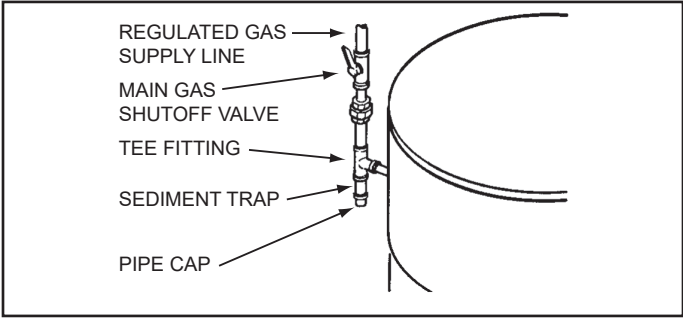

Figure 65. Main Gas Shut-Off Valve, Tee Fitting, and Sediment Trap
Ensure that all gas pipe is clean on the inside before installation. To trap any dirt or foreign material in the gas supply line a sediment trap must be installed as shown in **Figure 65**. The sediment trap must be readily accessible and not subject to freezing conditions. Install in accordance with the recommendations of the local gas utility company.
6. Install a sediment trap as shown in **Figure 65** (page 48).
7. Install a Main Gas Shutoff valve in the supply gas line as shown in **Figure 65** (page 48).